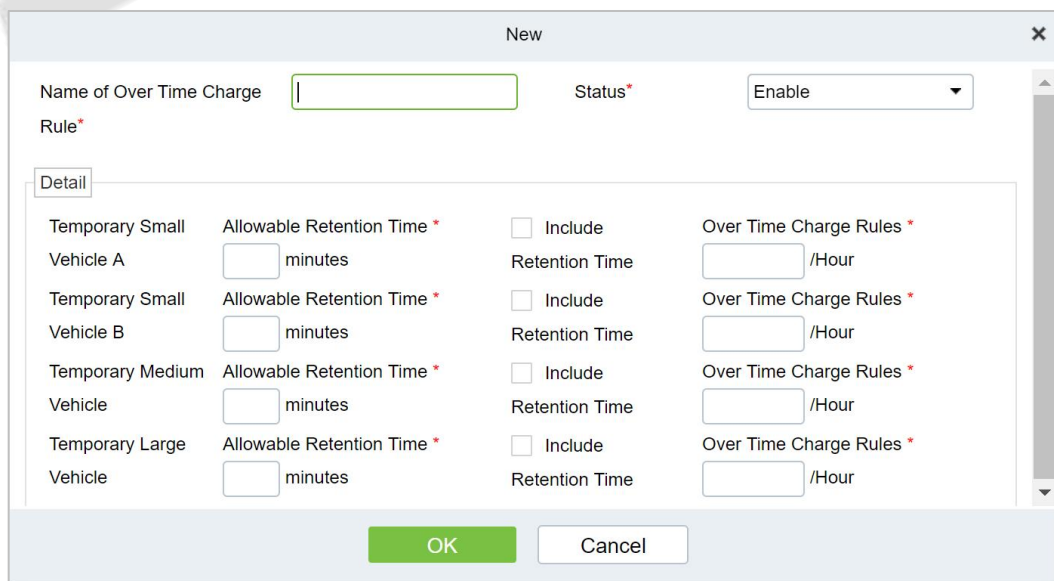

Figure 9-22 Interface of Timeout Charging Rules
Step 2: In the **Overtime Charge** Rule interface, click **Add New** and fill in the corresponding parameters, as shown in Figure 9-22. Please refer to Table 9-23 for parameter description.